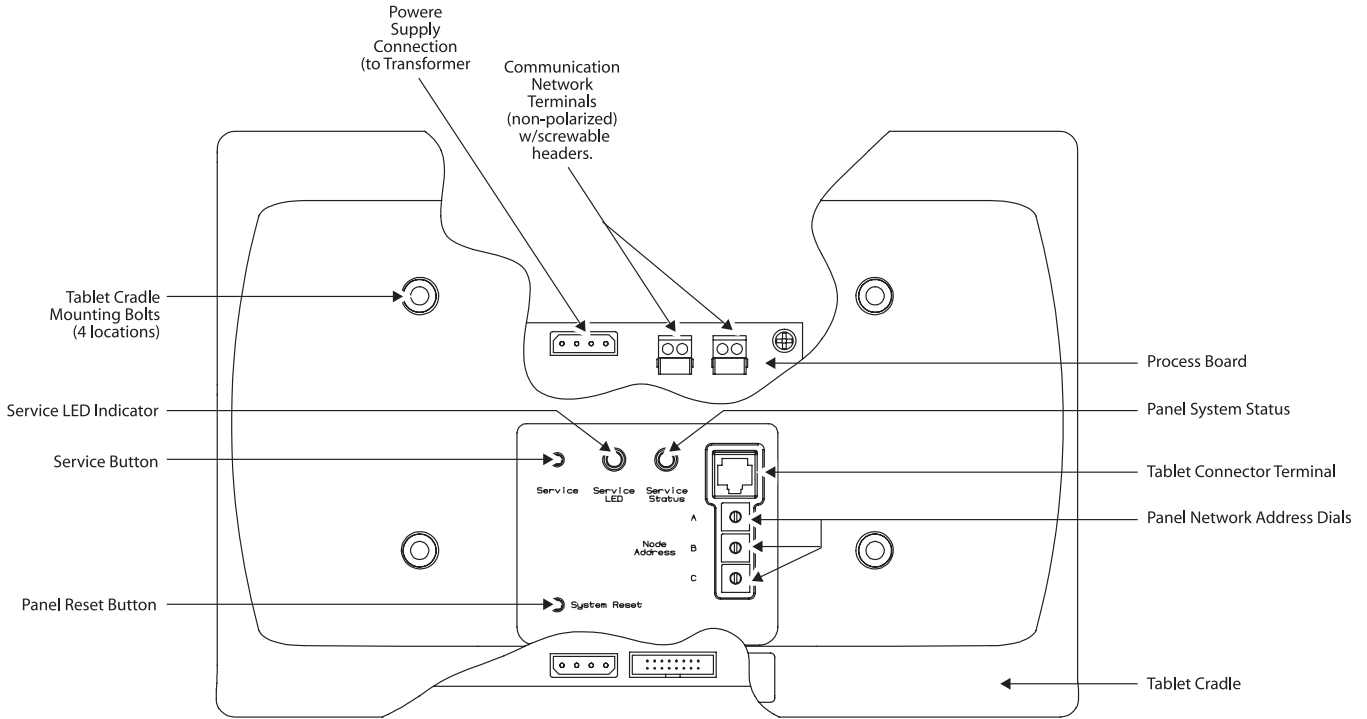

Figure 7:
Remove the Tablet Cradle by loosening its four mounting bolts as shown in Figure 7. Route the communication network lead(s) to an unused communication network terminal as shown in Figure 7. Insert communication network cable into the terminals and secure by tightening screws. Reinstall the Tablet Cradle and secure with mounting screws.
The panel network address is set via three rotary dials located in the Tablet Cradle as shown in Figure 7. Each panel is factory set to address 000 prior to shipping. For LX-only networks, each panel on the network will need to be assigned a unique network address. Addresses must be assigned in sequential order starting with address 001. For LonWorks Open System Networks, each panel on the network will be assigned address 000 (factory default). This will place the panel(s) into LonMark compatible mode.
Restore power to the lighting circuits and panel at the circuit breaker. The panel will take a few moments to initialize during which time the panel status light (shown in Figure 7) will be red. After initializing, the panel status light will turn green and begin blinking. The panel is now fully functional and ready to control the lighting loads.
For program mode, attach the LX Tablet to the Tablet Terminal located on the Tablet Cradle as shown in Figure 7 using the CAT-5 connector cable provided within the Tablet. Follow the instructions contained in the LX Lighting Controls User’s Manual to setup lighting circuit schedules and system functionality as desired. To program panel functionality within a LonWorks Open System network, a panel plug-in is available from www.hubbell-automation.com.
3. Carefully remove the Tablet Cradle as shown in Figure 7 by loosening its four mounting screws. Verify that the secondary power leads are properly connected to the panel processor card as shown in Figure 7.
3. Verify that all of the interconnection cables between the different circuit board cards are properly connected and seated. Carefully remove the Tablet cradle as shown in Figure 7 by loosening its mounting screws to access connector cables between the panel processor board and the first I/O control card.
- Verify that all of the interconnection cables between the different circuit board cards are properly connected and seated. Carefully remove the Tablet cradle as shown in Figure 7 by loosening its mounting screws to access connector cables between panel processor board and first I/O control card.